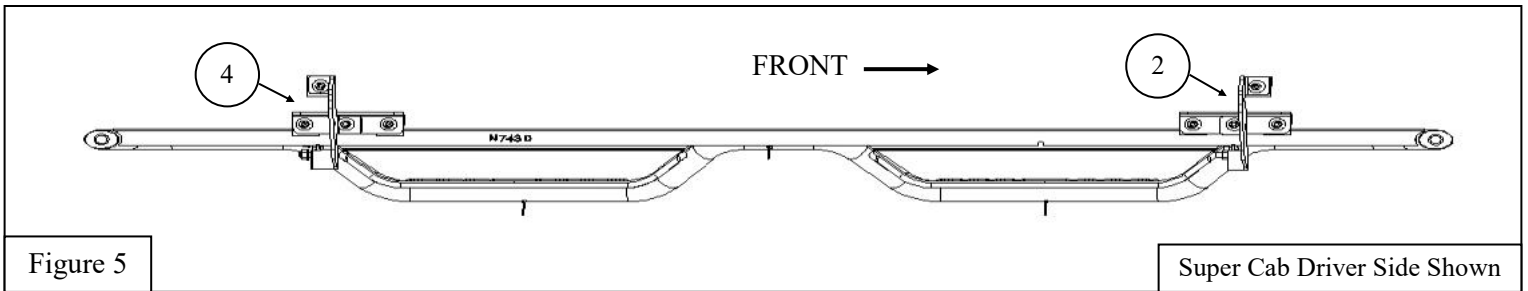

Figure 5
6. Repeat **Steps 3 & 4** for every mounting location. **Note:** See **Figures 5 & 6** for the correct bracket orientation.